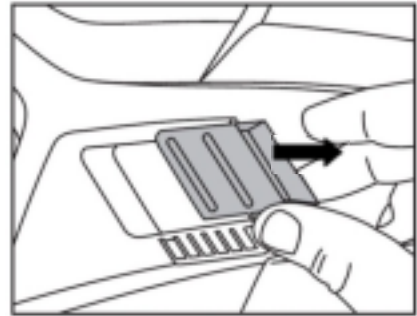
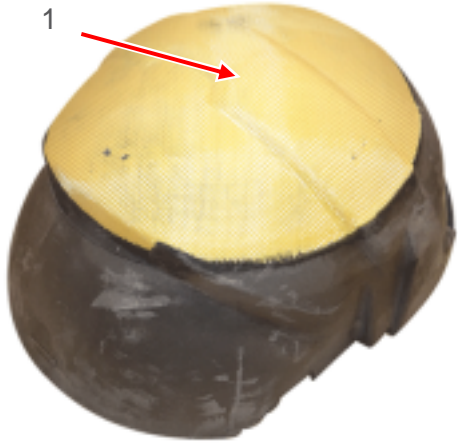

Fig. 2
Fig. 4
- (2) Separate the mobile module from the fixed base (see Fig. 2).
- (3) Change the complete assembly (include base module) by extract the helmet inner module – see suspension section
- (4) Strongly push the kitfix through the hole in the shell (see Fig. 3) until it gets separated from the shell (see Fig. 4).